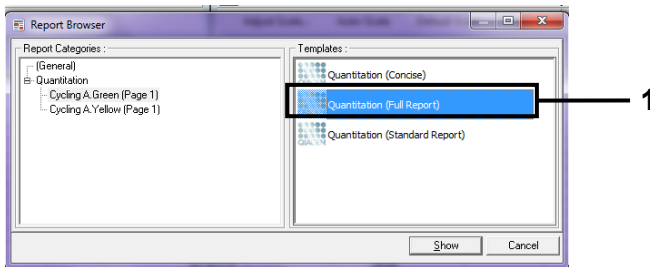

Figure 19. Quantitation report (Full Report) (1).
20. Select **Quantitation (Full Report)** in the **Templates** section (Figure 19).